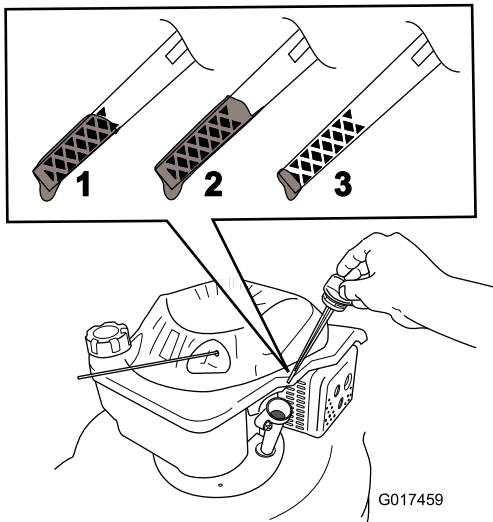

Figure 26
8. Remove the dipstick and read the oil level on the dipstick (Figure 26).